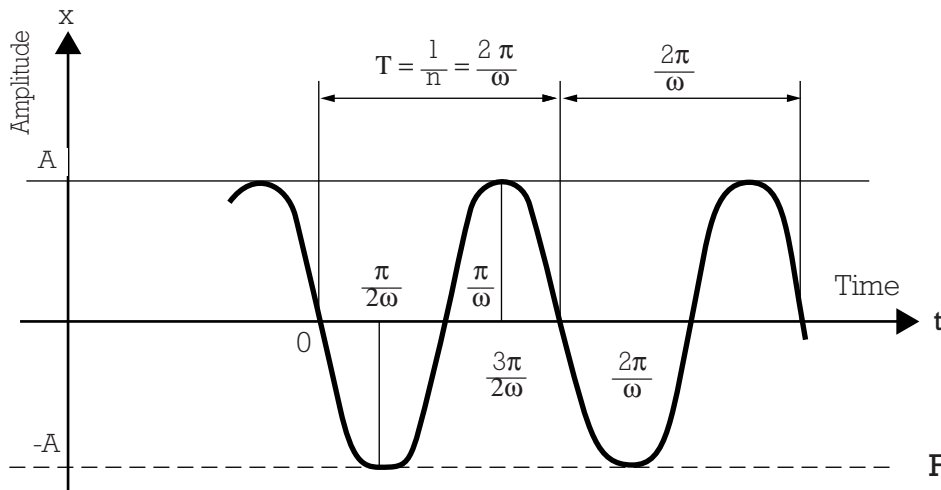

Fig. 1
• Sinusoidal vibration $x = A \sin \omega t$ (fig.1)
The oscillation continues indefinitely with an amplitude A (as shown in Fig. 1 with ω replaced by ω_0).